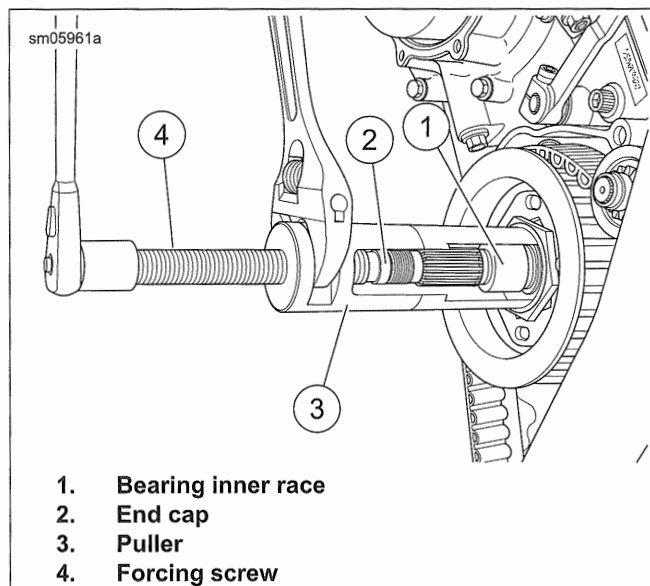

Figure 5-31. Pulling Mainshaft Inner Bearing Race
1. See Figure 5-31. Remove bearing inner race using BEARING RACE REMOVER AND INSTALLER KIT (PART NUMBER: HD-34902-C).